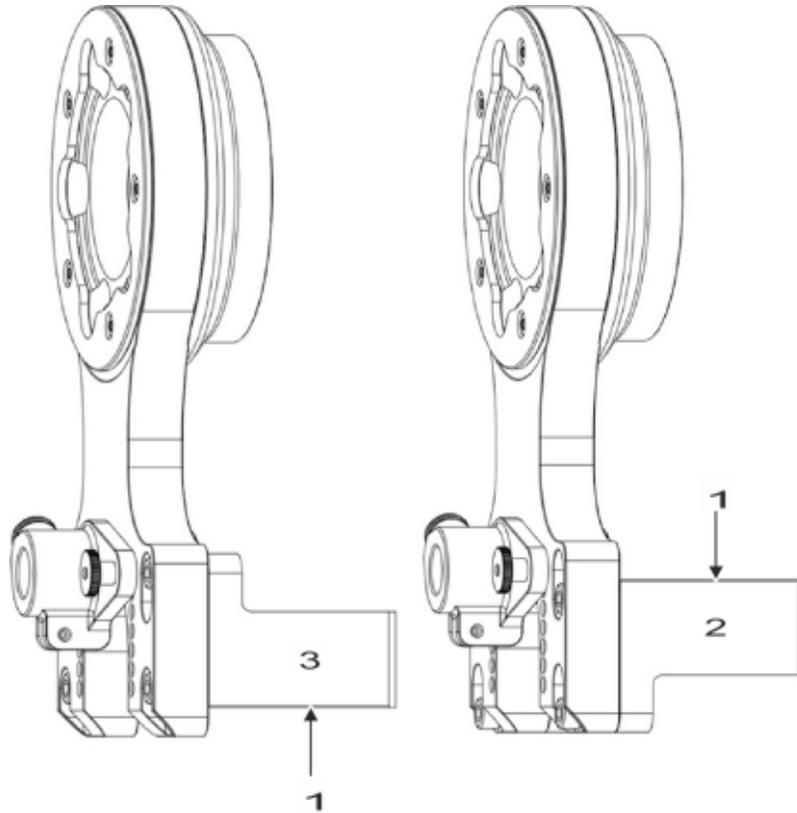

Figure 35
- ⇒ **Figure 35 -1** – The radius of the measuring wheels is roughly set using the L-angle foot position “**LOWER**” or “**UPPER**”.
- ⇒ **Figure 35 -2** – Angle foot position “**UPPER**”
- ⇒ **Figure 35 -3** – Angle foot position “**LOWER**”